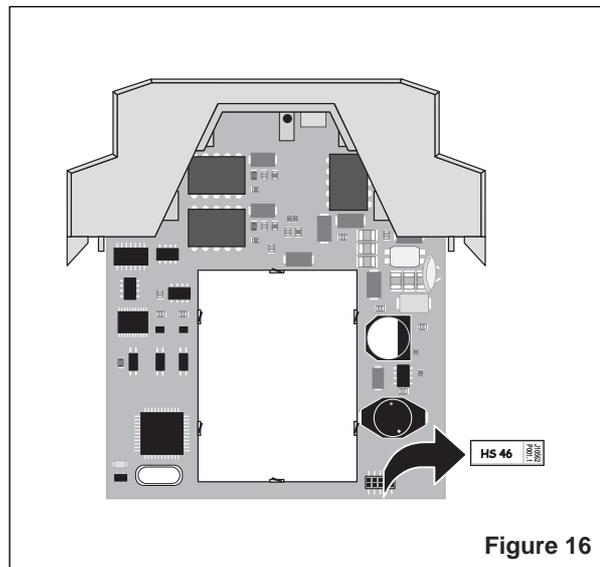

Figure 16
5. At the bottom right on the printed circuit board is a small printed circuit board in a 10-pos. base – this is the HOPKEY. Remove the HOPKEY and insert it in the same position in the new receiver that you wish to install (see Figure 16).